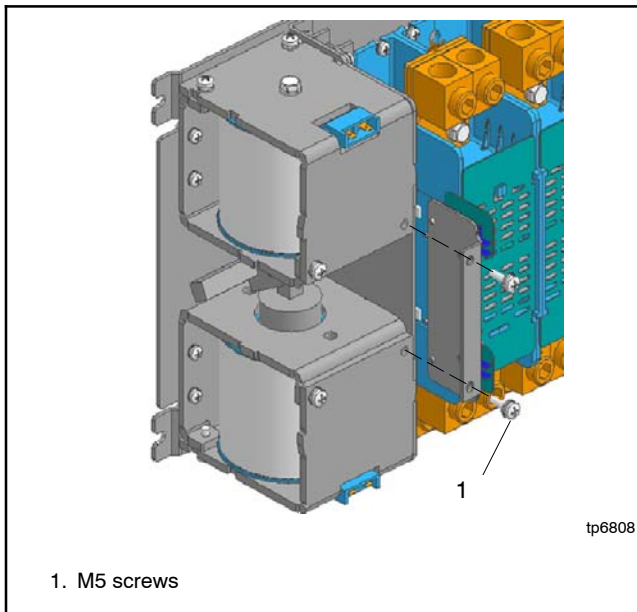

Figure 7-33 Microswitch Mounting Plate
2. Replace the microswitch mounting plate and reinstall the two M5 screws. See Figure 7-33. Tightening torque for the M5 screw: 3 Nm.